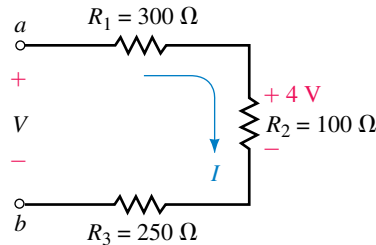

FIGURE 5-69
15. For the circuit of Figure 5-69, find the following quantities: